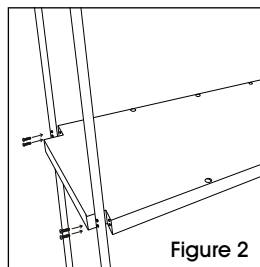

Figure 2
3. Repeat step 2 for the upper platform. (See Figure 2)